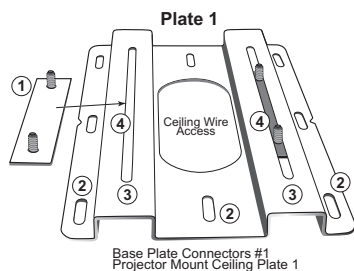

Figure 11
1. Insert Base Plate connectors #1 into the lateral positioning slots #3 from the underside of Plate 1. The lateral positioning slots will give you 2-1/4 inches of lateral adjustment for projector alignment. Refer to figure 11.